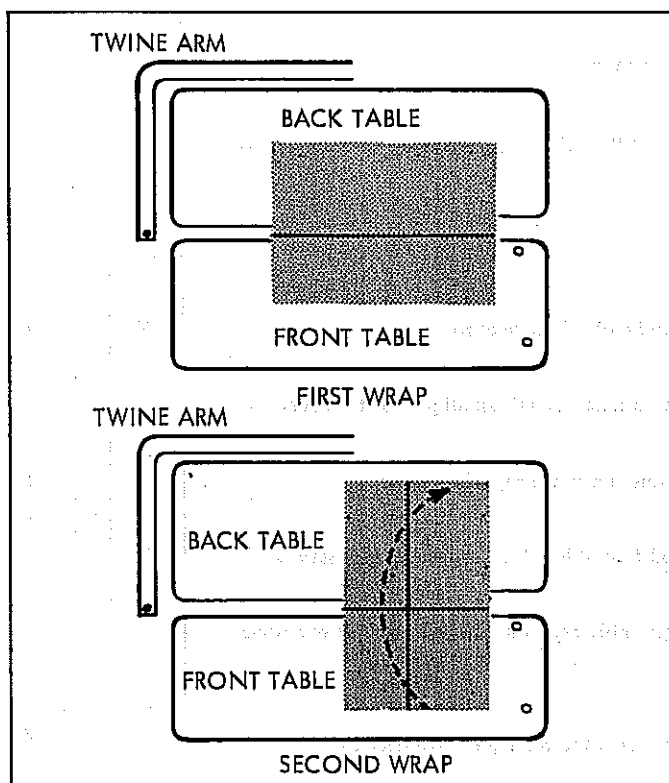

Figure 4. Positioning Package for Cross-Tie
3. Hold ends of package between thumbs and fore-fingers of both hands and position package on tying machine table so that right side of package is butted against standard or notch in front table (figure 4) and positioned over gap between front and back tables.
5. Turn package 90 degrees IN CLOCKWISE DIRECTION (figure 4) in tying machine.